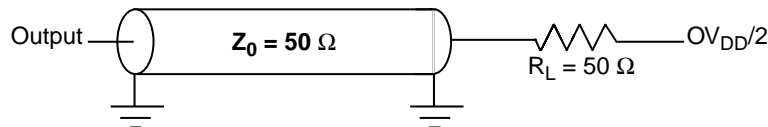
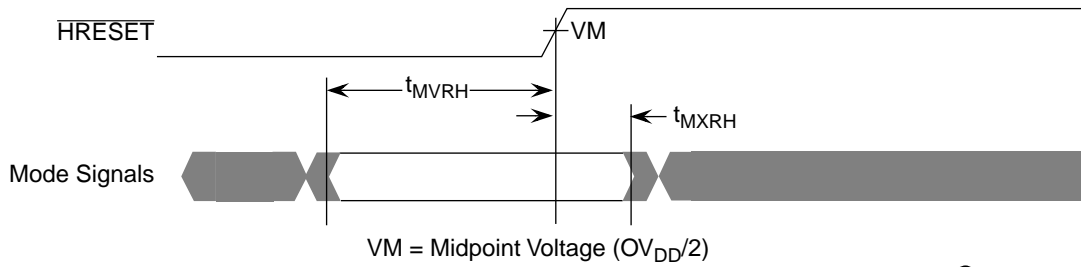

Figure 4. AC Test Load
Figure 5. Mode Input Timing Diagram
Table 9 provides the processor bus AC timing specifications for the MPC7450 as defined in Figure 4 and Figure 5. Timing specifications for the L3 bus are provided in Section 1.5.2.3, "L3 Clock AC Specifications."
- All input specifications are measured from the midpoint of the signal in question to the midpoint of the rising edge of the input SYSCLK. All output specifications are measured from the midpoint of the rising edge of SYSCLK to the midpoint of the signal in question. All output timings assume a purely resistive 50- Ω load (see Figure 4). Input and output timings are measured at the pin; time-of-flight delays must be added for trace lengths, vias, and connectors in the system.
- The symbology used for timing specifications herein follows the pattern of $t_{(\text{reference})(\text{state})(\text{signal})(\text{state})}$ for inputs and $t_{(\text{reference})(\text{state})(\text{signal})(\text{state})}$ for outputs. For example, t_{IVKH} symbolizes the time input signals (I) reach the valid state (V) relative to the SYSCLK reference (K) going to the high (H) state or input setup time. And t_{KHOV} symbolizes the time from SYSCLK(K) going high (H) until output (O) are valid (V) or output valid time. Input hold time can be read as the time that the input signal (I) went invalid (X) with respect to the rising clock edge (KH) (note the position of the reference and its state for inputs) and output hold time can be read as the time from the rising edge (KH) until the output went invalid (OX).
- The setup and hold time is with respect to the rising edge of $\overline{\text{HRESET}}$ (see Figure 5).
Figure 4 provides the AC test load for the MPC7450.
Figure 5 provides the mode select input timing diagram for the MPC7450.